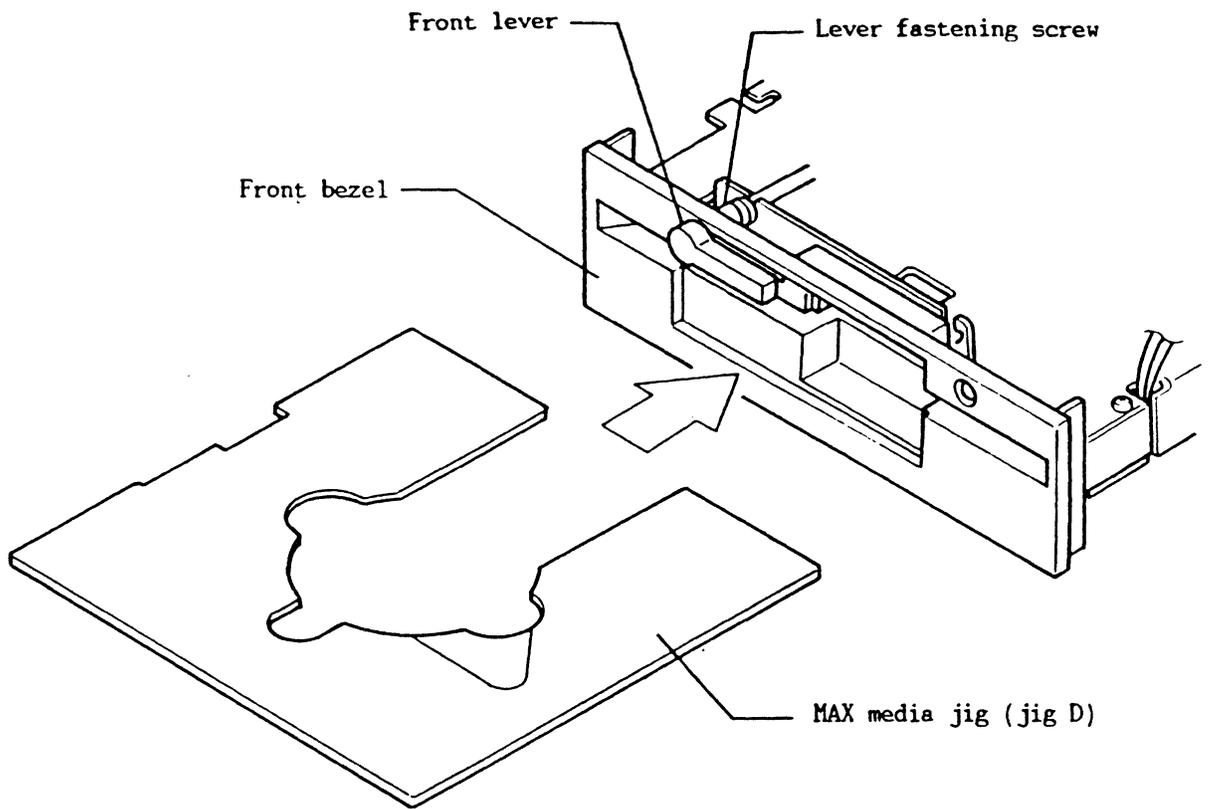
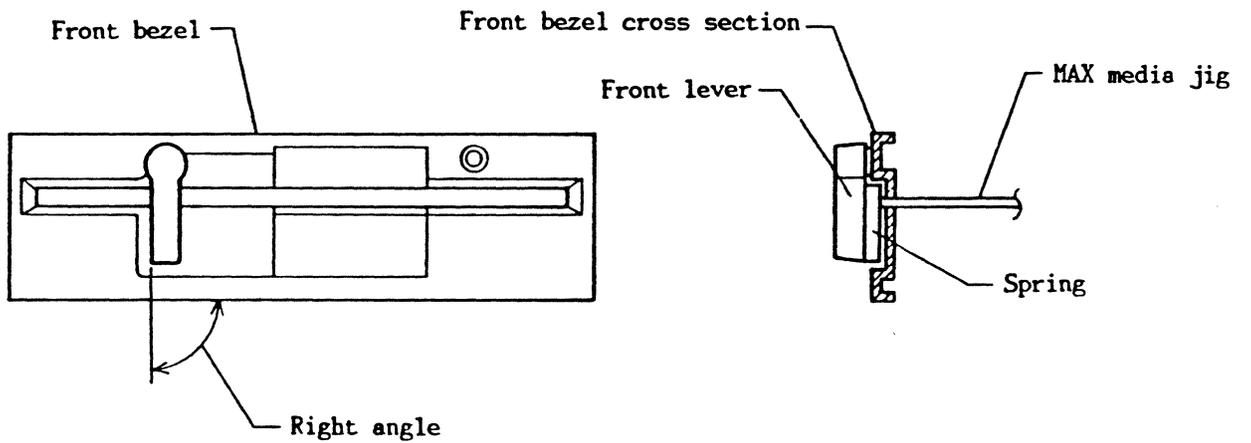

Fig. 408 Front Lever Adjustment
Fig. 409 Front Lever Position
- (1) Turn the front lever to the closed position, loosen the lever setscrew and pull out the lever approximately 0.5mm
- (2) Open the front lever and attach the MAX media jig at the position shown in Fig.408 (with the notch on the left side).
- (3) Turn the front lever to the closed position and press against the MAX media jig. Make sure that the lever shaft pin is in the slot of the front lever.
- (4) In this state, tighten the setscrew to the designated torque (refer to Fig.409).
- (5) Open and close the lever and make sure the lever spring does not straddle the MAX media jig.
- (6) Open the front lever and remove the jig.
*Note: Refer to item 4-2-1 for the handling of the setscrew and follow the instructions carefully.*